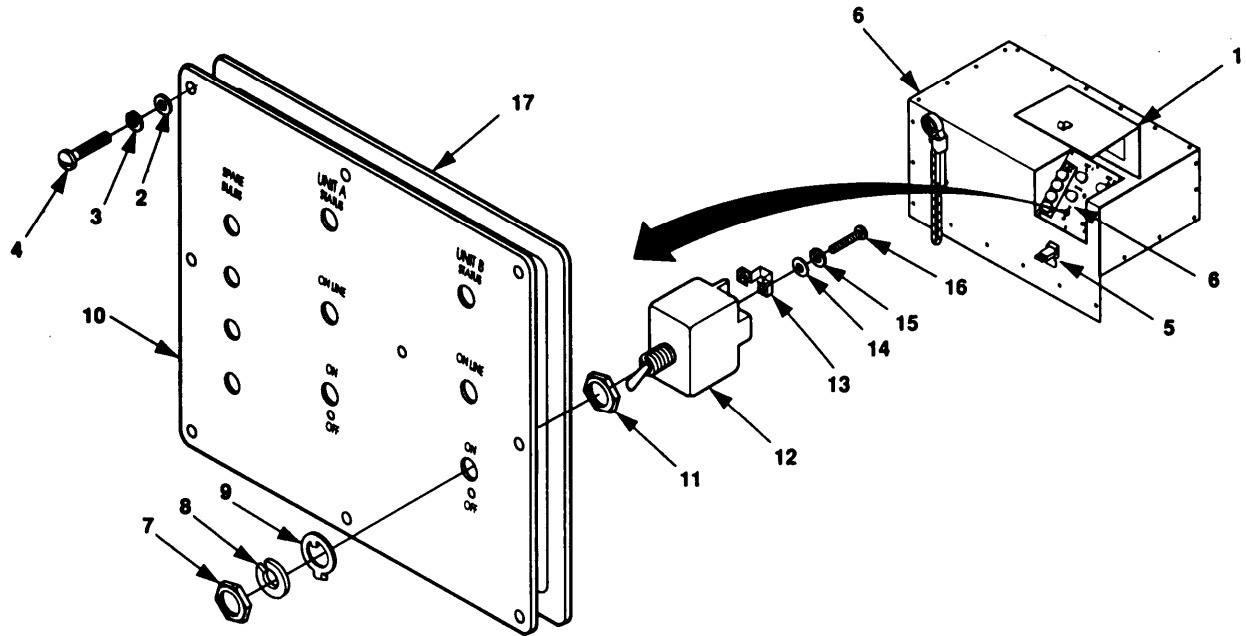

Figure 4-12. Switch Replacement
1. Release clamping catch (5, Figure 4-12) and open the control panel access cover (1).
2. Remove 8 screws (4), flat washers (2), and lock washers (3). Remove control panel assembly (10).
3. Tag wires on terminals 3, 4, and 6 of switch (12).
4. Remove terminal screws (16), lock washers (15), flat washers (14), and conductor bus (13) from switch terminals.
5. Remove nut (7), lock washer (8), locking ring (9), and switch (12).